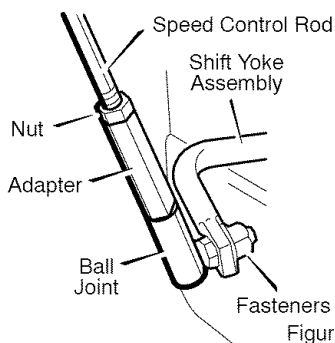

Figure 11
3. Attach the **ball joint**, located on the bottom end of the **speed control rod**, to the **shift yoke assembly**. See Figure 11. The **fasteners** (washer and nut) to attach the **ball joint** are in the parts bag.